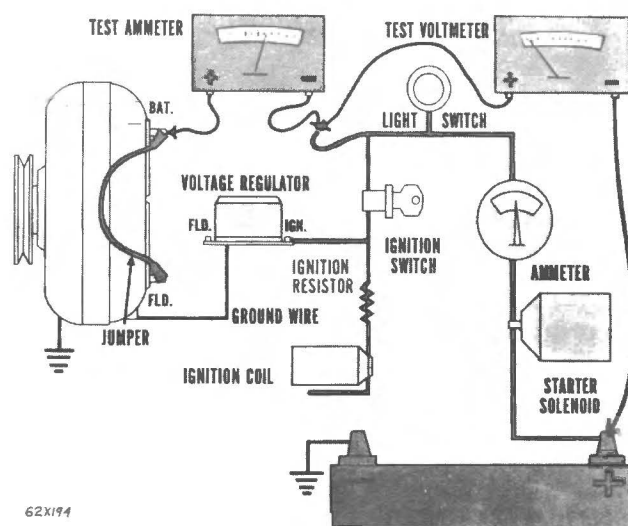

Fig. 14 - Charging circuit resistance test.
(1) Disconnect the lead at the alternator "Bat" terminal. Connect a 0-50 amperes scale D.C. ammeter in series between the BAT terminal and BAT lead which was disconnected from the terminal (Fig. 14).
(2) Connect the positive lead of a test D.C. voltmeter to the BAT lead, and connect the negative voltmeter lead to the battery positive (+) terminal.
(3) Start to operate the engine at a speed to obtain 10 amperes flowing in the circuit. Observe the voltmeter reading. This should not exceed .2 volt. If a higher voltage drop is indicated, inspect, clean and tighten all connections in the charging circuit. A voltage drop test may be performed at each connection to locate the connection with excessive resistance.
(4) Disconnect the test instruments. Connect the BAT lead to the alternator BAT terminal and tighten securely.